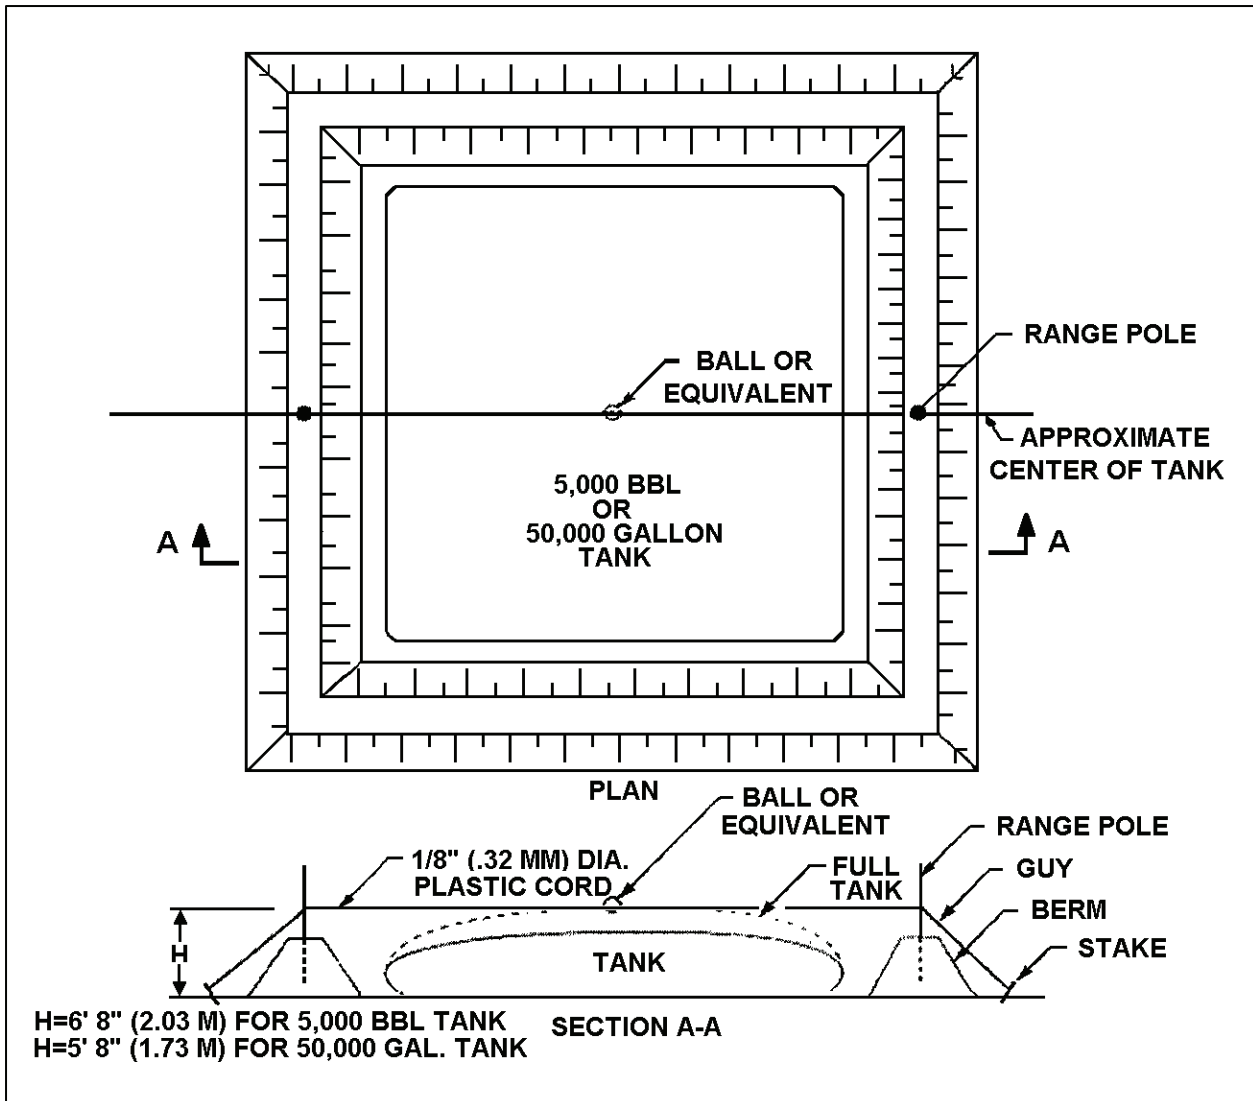

Figure 1
(2) Installation of range poles (Figure 1).